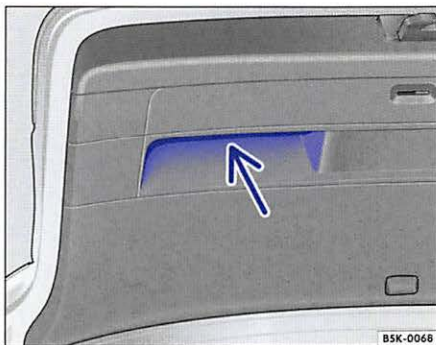

Fig. 29 Opened rear hatch: Recessed grips for closing.
- Grasp one of the recessed grips in the rear hatch trim ⇒ fig. 29 (arrow).